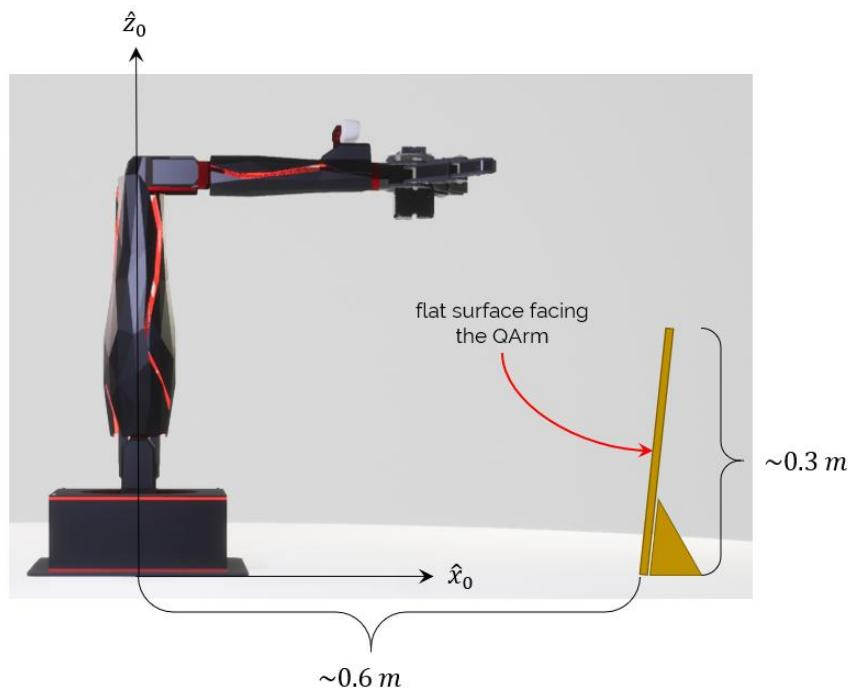

Figure 1: Suggested flat surface pose with respect to the manipulator
4. Student A - approach the arm and while supporting it, turn off the power using the switch at the rear end of the base. Move the arm to the rest position slowly. Now turn ON the power using the switch at the rear end. The manipulator should remain in the rest position. Place the flat surface as shown in Figure 1 in front of the manipulator.